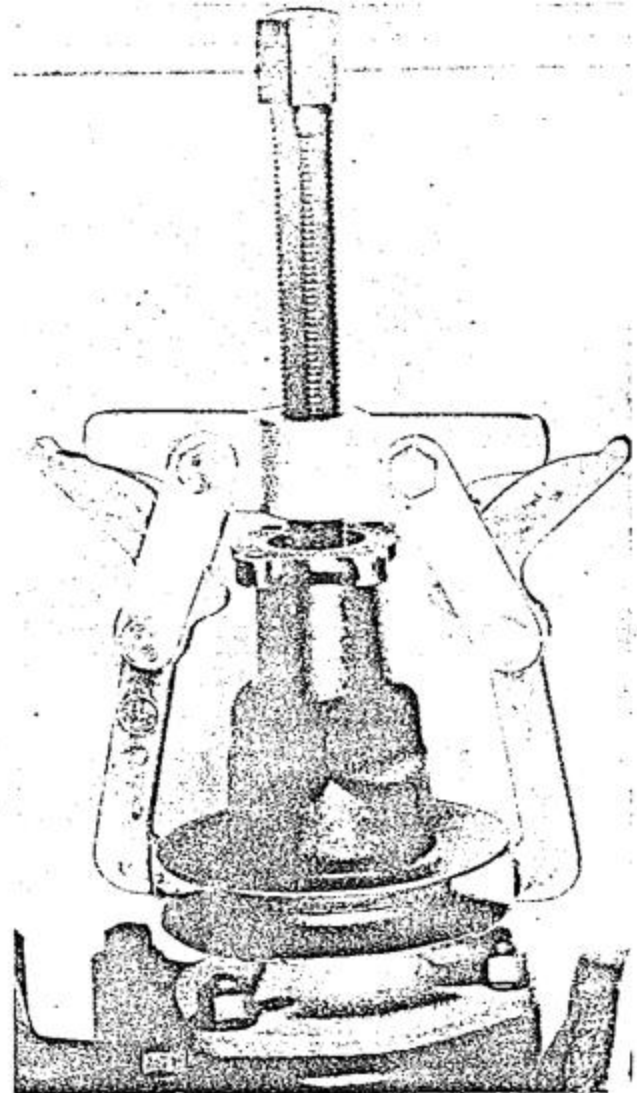

Fig. 21. Drawing fan pulley with Churchill extractor. This extractor may also be used on crankshaft pulley.
7. Extract crankshaft fan pulley utilizing a suitable extractor. Fig. 21 shows the employment of Churchill Extractor Tool No. 6312 on fan extension bracket.